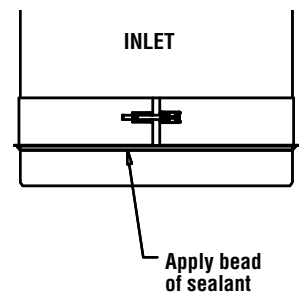
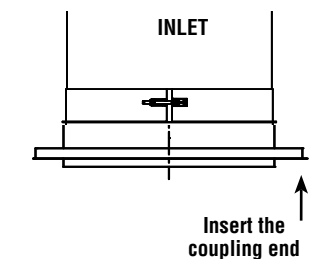

Figure 39a
Figure 40a
3. Add a bead of sealant about 1/8" on the flange of the retaining band and one on the flange of the adaptor (SWA) and mate those two flanges together. Be sure to fill all the gaps with S-2000 sealant. (See **figure 39a and figure 40a**).